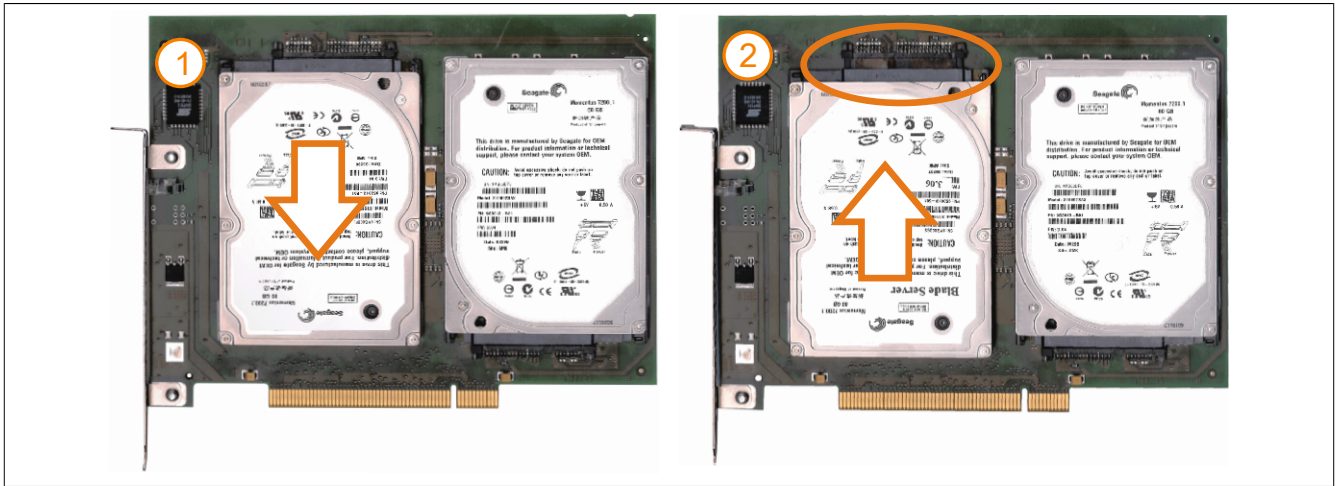

Figure 218: Hard disk exchange
6. On the front side, slide the hard disk down and away (Figure 218: Hard disk exchange - left image).
7. Insert the new hard disk carefully into the connector (Figure 218: Hard disk exchange - right image), being careful to only touch it on the front, and not on the top.